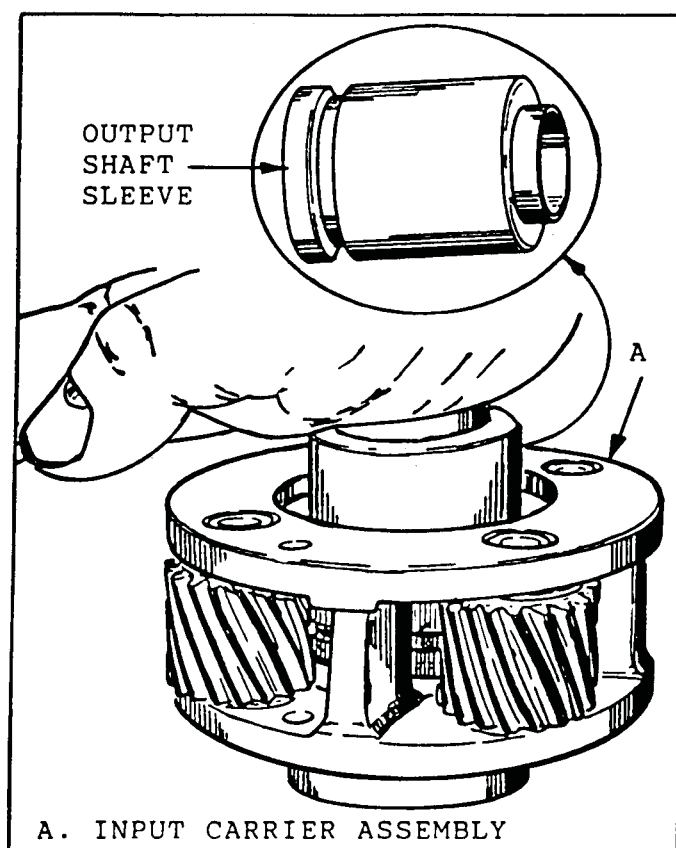

Figure 85
- To check the trapped thrust bearings in the carriers for wear, place a bushing or output shaft sleeve on the bearing race, as shown in Figure 85. (Do not contact the pinion gears). Turn it with the palm of your hand, any imperfections will be felt through the sleeve.